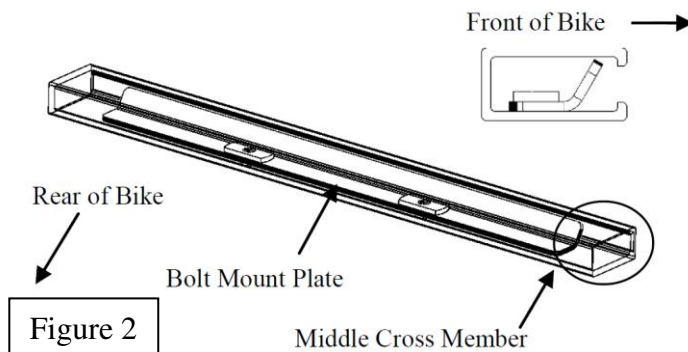

Figure 2
3. Insert one of the bolt mount plates (Item 1) [Page 3], with the threaded holes facing towards the rear of the bike, inside the middle cross member by sliding it into the slot of the cross member on the front side of the bike and align the two holes on the cross member with the two threaded holes on the bolt mount plate. See Figure 2.